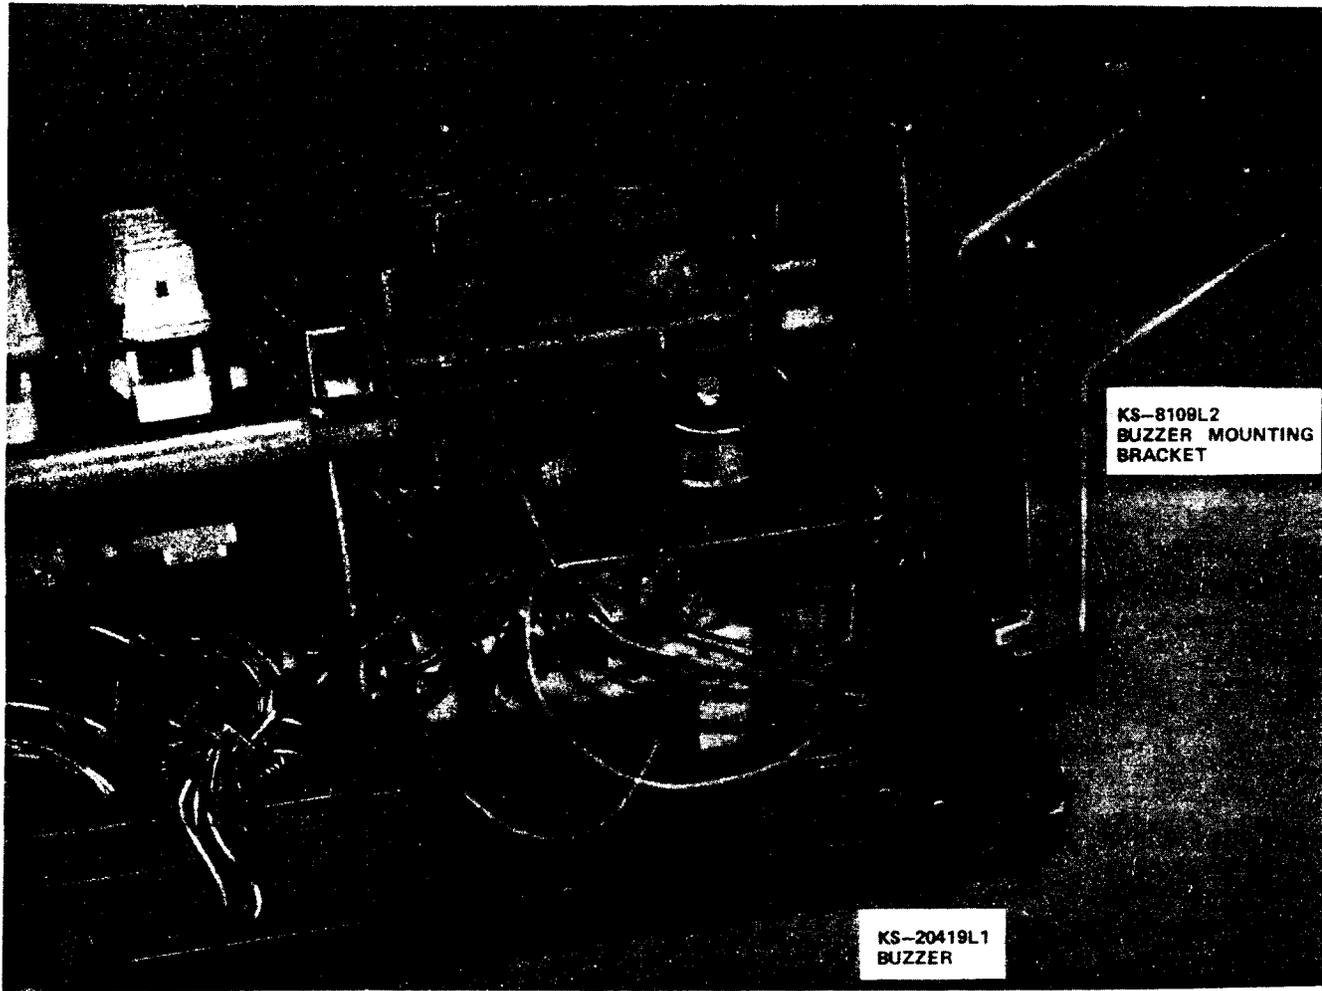

Fig. 16—Mounting Location for Buzzer
2.26 Current model CALL DIRECTOR sets are furnished from the factory equipped with a KS-20419L1 (10 volt ac only) buzzer (Fig. 16).
2.27 In early model CALL DIRECTOR sets, KS-8100 type buzzers were mounted at location shown in Fig. 16 and 18.
2.28 If a second buzzer is required, a KS-20419L1 can be mounted at any convenient location using a single screw and KS-8109L2 at location shown in Fig. 16 or 18.